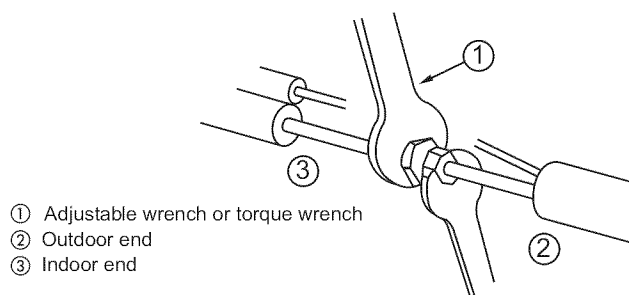

Fig. 30 - Tightening Connections
8. If the refrigerant piping connections are located outside the wall, tighten the flare connections as shown in Fig. 30. Insulate all exposed refrigerant lines and secure to the wall and fill any void spaces in the hole.